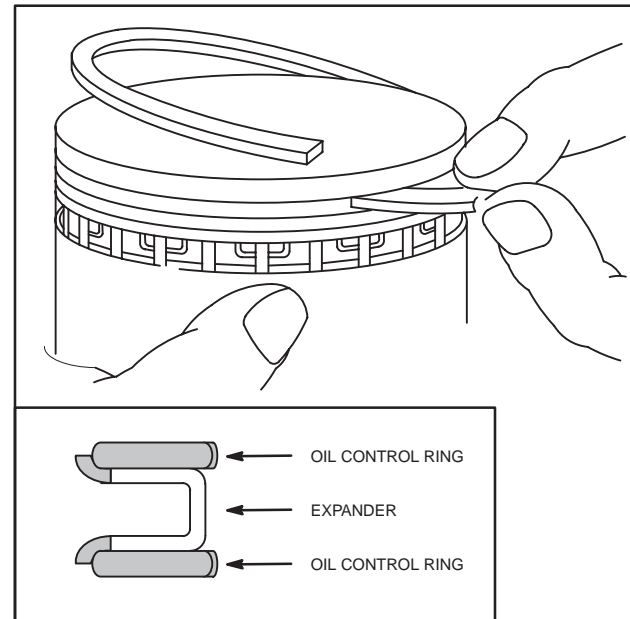

Fig. 12 – Installing Oil Ring
- a. Spiral bottom oil control ring into top ring groove, center ring groove and then into position below expander, Fig. 12.